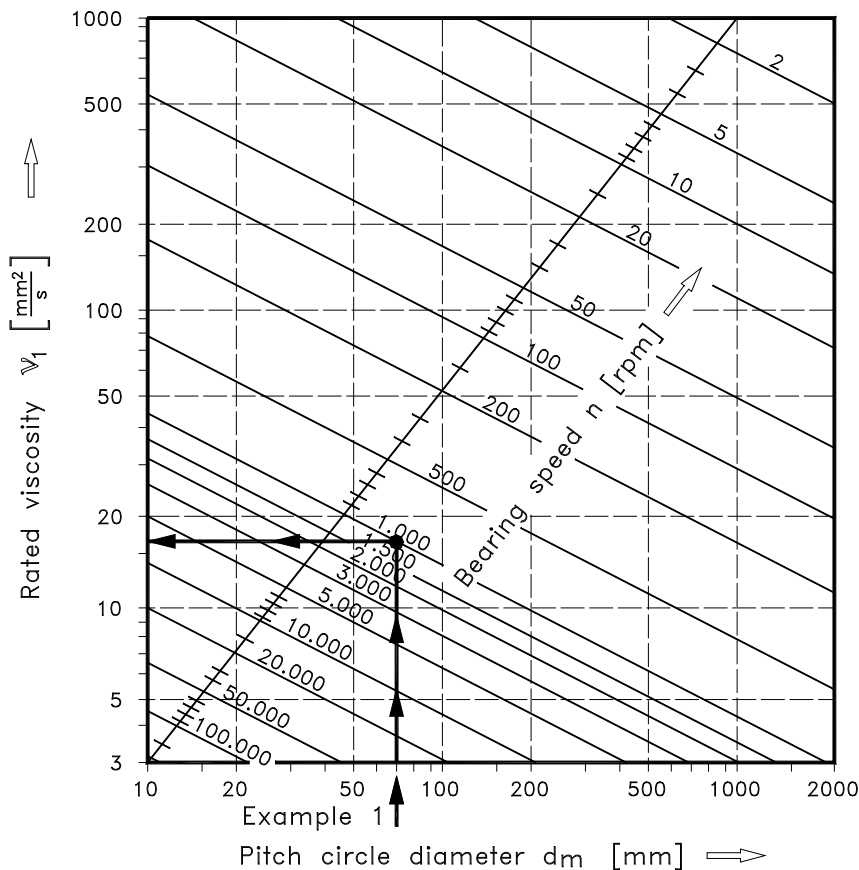

Fig. 6.9
**Step 2:** Strike a line in the diagram fig. 6.9 from the X-axis starting at a pitch diameter of  $d_m = 70\text{ mm}$  (see arrows). Go straight upwards until the line crosses the required speed, in this example the line of **1000 rpm**. From this cross point go straight to the scale located at the left diagram border where the **(required) rated viscosity  $v_1$**  for the individual operating conditions can be found. In the actual example  $v_1$  amounts to approximate **16 mm2 / s**.
(see evaluation in fig. 6.9)